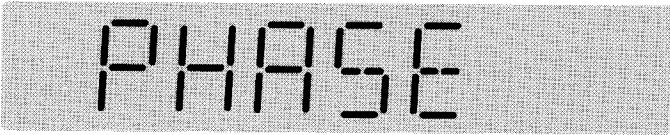

Figure 4-19 Phase Test Display
- Step 3:** Use the **Select** pushbutton to enter the valid password. Once the password is accepted, **Phase** will appear in the **Function Display** (Figure 4-19). A choice is now offered between a **Phase** or a **Ground** test.